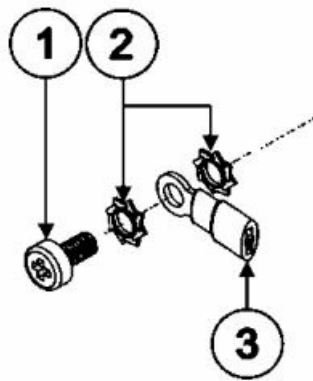

Figure 5: Grounding Connection Components
- Figure 5 shows the grounding screw components.